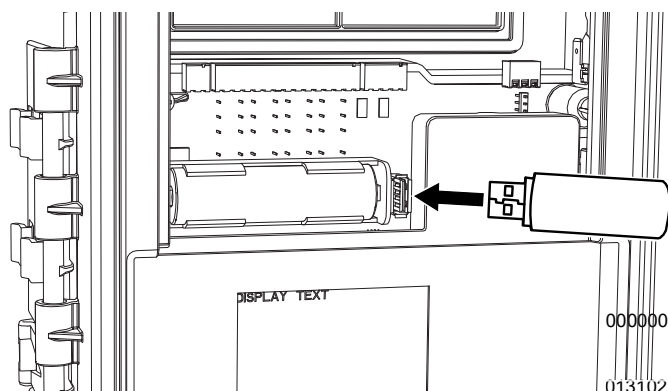

Figure 1-8. Insert Flash Drive
2. See Figure 1-8. Insert the flash drive into the USB port beside the battery. An indicator will appear on the display. Use dealer password 3219.